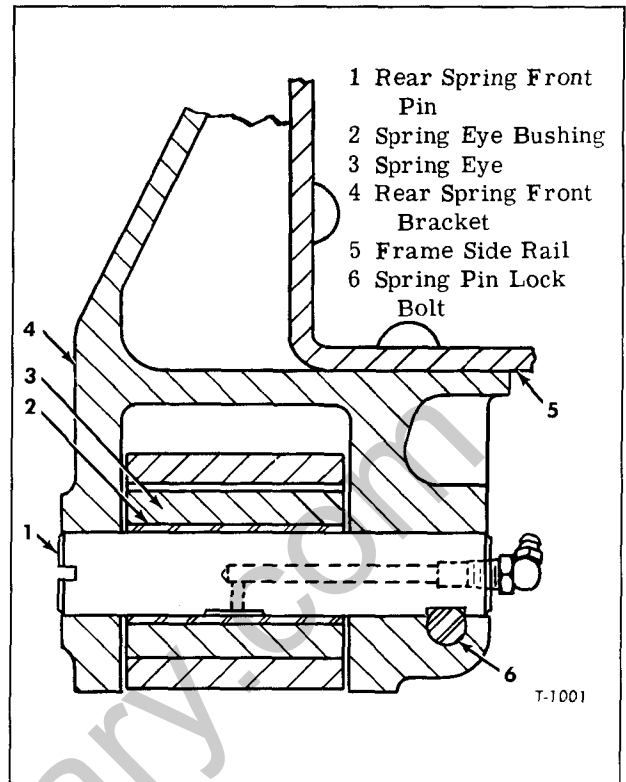

Figure 12—Section Through Spring Eye and Front Bracket (Typical)
5. Install spring eye pin through bracket and spring eye, with milled flat near end of pin aligned with lock bolt hole in bracket. Use a soft hammer to drive pin in from outer side. Install spring front pin lock bolt and nut with washer and tighten firmly. Install lubrication fitting in inner end of eye pin. Figure 12 illustrates section through pin, spring eye, and frame bracket.